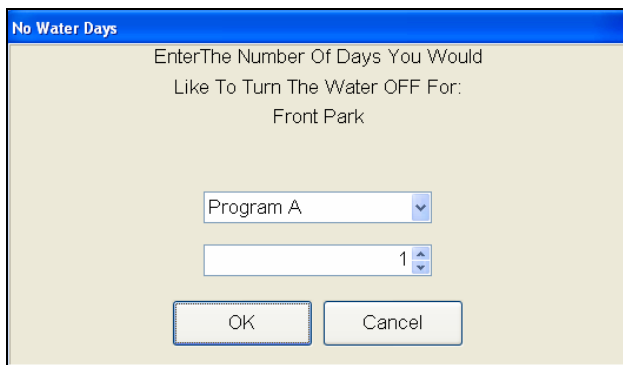

Figure 6.5.3
- There is a drop down arrow to the right of the first box. This box will allow you to choose All Stations, Certain Programs, or Individual Stations. Highlight the choice that you want and then move to the next box (Figure 6.5.3).
- Using the **UP** and **DOWN** arrow select the number of No Water Days 1-31 that you want to send to the controller(s) (Figure 6.5.3).